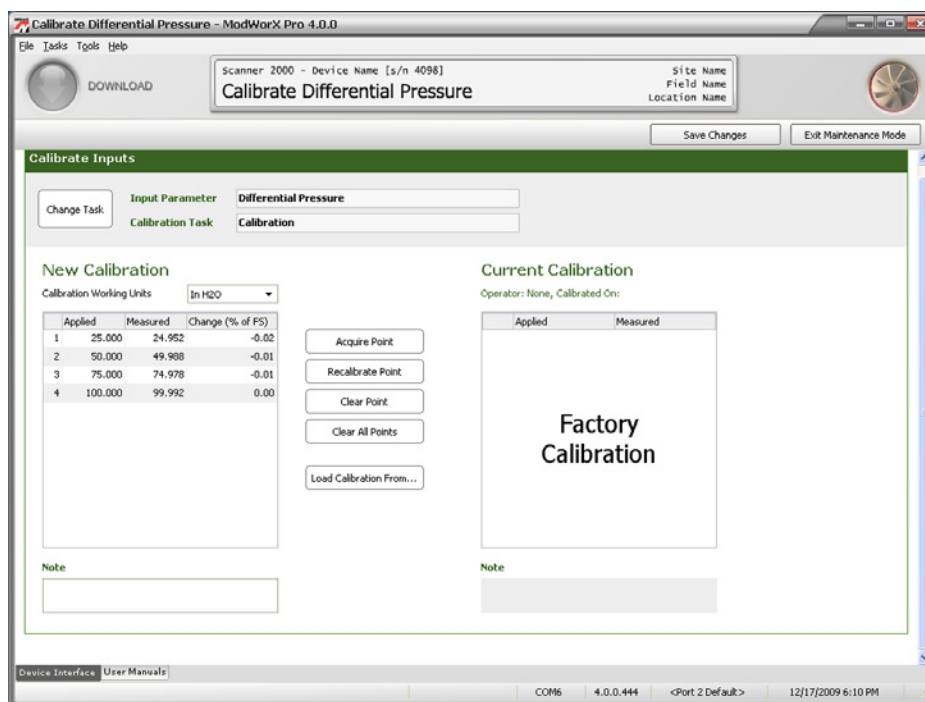

Figure 8.8
- When a measured value is indicated, click **OK** to save the calibration point and return to the Calibrate Differential Pressure screen (Figure 8.8, page 117). The New Calibration table is updated with the applied pressure, the measured value, and a percentage of change. The percentage of change is expressed as a percentage of full scale, and is a measure of how the calculated value will change based on the new calibration with respect to the previous calibration.